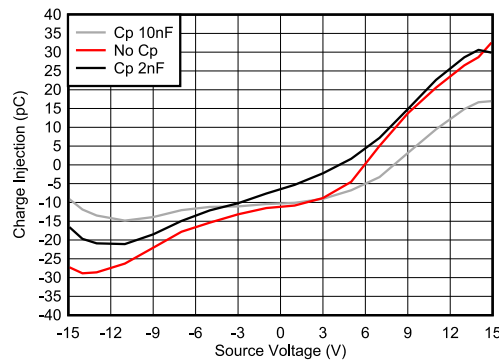

Figure 8-3. Charge Injection Compensation
The TMUX7219-Q1 contains specialized architecture to reduce charge injection on the source (Sx). To further reduce charge injection in a sensitive application, a compensation capacitor (Cp) can be added on the drain (D). This will ensure that excess charge from the switch transition will be pushed into the compensation capacitor on the drain (D) instead of the source (Sx). As a general rule of thumb, Cp should be 20× larger than the equivalent load capacitance on the source (Sx). Figure 8-3 shows charge injection variation with source voltage with different compensation capacitors on the drain side.